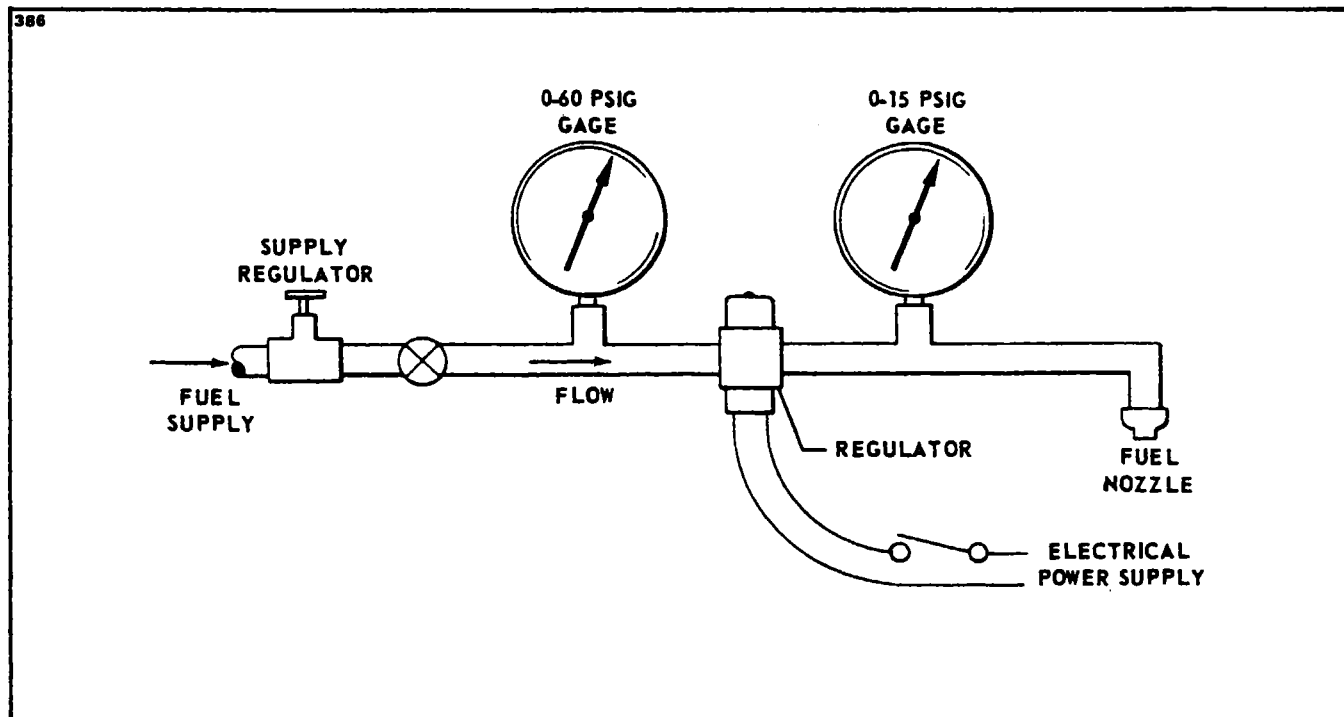

Figure 13-14. Test Setup for Fuel Regulator and Shutoff Valve
- a. Install the regulator in a test stand similar to that shown in Figure 13-14.